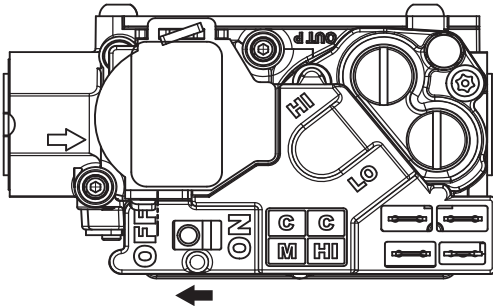

Fig. 11 - Control Switch to OFF
5. The gas valve will have a control switch to turn off and on. Turn the control switch on the gas control to the OFF position and wait 5 minutes. (See Fig. 11.) Then smell for gas, including near the floor. If you smell gas, **STOP!** Follow “B” on furnace label. If you don’t smell gas, go to next step.